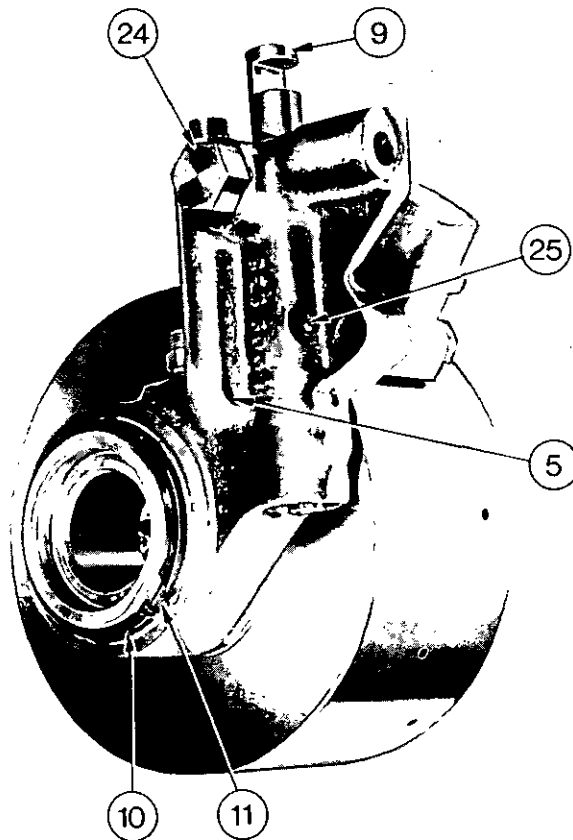
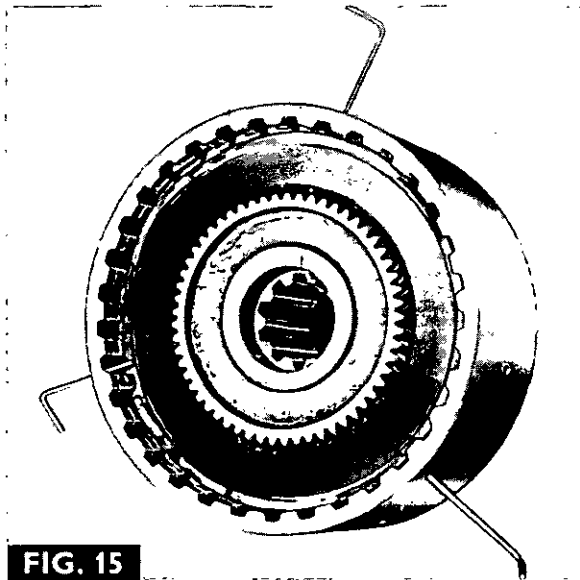
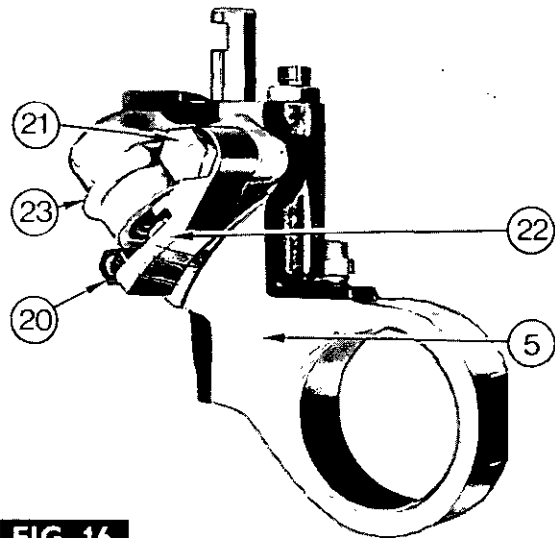

FIG. 13
FIG. 15
FIG. 16
2. Fig. 13. Remove the snap ring (10), thrust washer (11) and then the spool valve (5) from the clutch assembly.
1. If necessary, fit a new piston ring to the piston (14), then place the piston, boss uppermost, in the clutch housing (12).
2. Refit the centre hub (13) in the housing.
3. Fig. 15. Alternately assemble the seven pressure plates (15), friction discs (17) and springs (16) in the housing. To facilitate the refitting of all the discs, place suitable pins to compress the springs as shown.
4. Refit the cover plate (18) and secure with a new snap ring (19).
6. Fig. 13. Refit the spool valve (5) to the clutch, then the thrustwasher (11) and secure with a new snap ring (10).
2. Fig.13. Remove the snap ring (10), thrust washer (11) and then the spool valve (5) from the clutch housing.
3. Fig.16. Remove the two bolts (20 and 21) securing the brake (22) and the brake housing (23) to the spool valve (5).
4. Fig.13. Remove the plug (24), spring and ball, then drive out the securing pin (25) and withdraw the spool (9) from the spool valve (5).
2. Fig.13. Slide the spool (9) into the valve (5), then align the flat on the spool with the hole in the valve and fit a new securing pin (25).
3. Refit the ball, spring and plug (24).
4. Fig.16. Engage the brake (22) into the slot at the end of the piston (27 Fig. 6) then refit the brake and the brake housing (23) to the spool valve and secure with the two bolts (20 and 21).
**NOTE - BEFORE FULLY TIGHTENING THE BOLTS (20 and 21) ENSURE THAT THE BRAKE (22) IS FLUSH AGAINST THE BRAKE HOUSING (23).**
5. Fig.13. Refit the spool valve (5) to the clutch, then the thrust washer (11) and secure with a new snap ring (10).